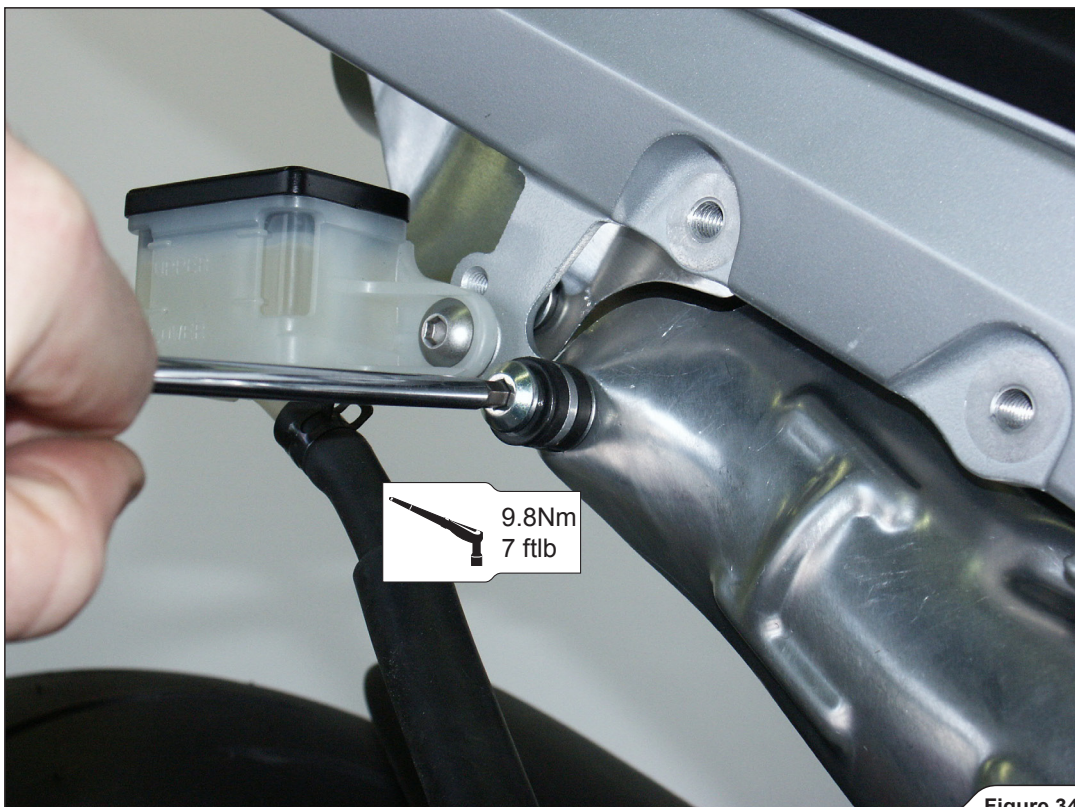

Figure 34
6. Attach the stock aluminium heat shield, rider's and passenger's footrests and plastic heat shield cover in the reverse order from the order in which they were removed (Figure 34, 35, 36).